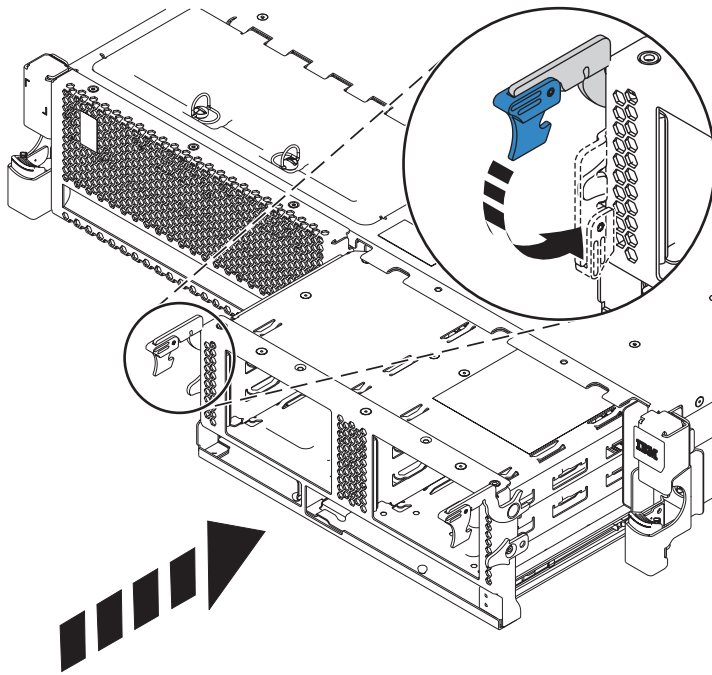

Figure 58. Replacing the disk drive cage
- a. With the disk drive latches extended, push the disk drive cage into the system. See Figure 58.